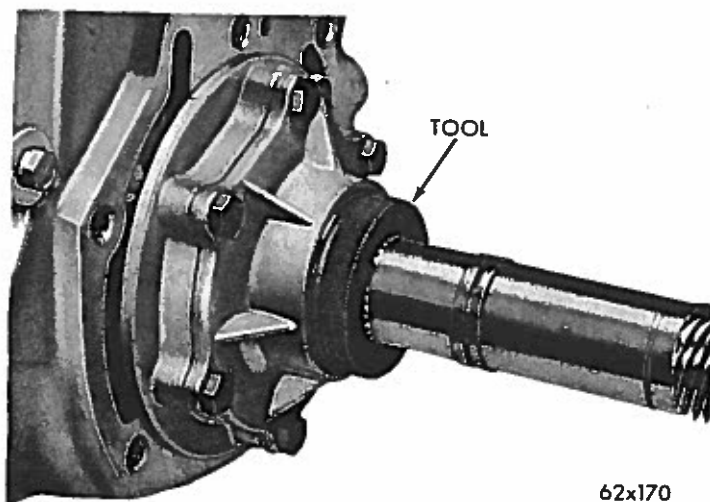

Fig. 35—Aligning Rear Oil Pump Cover (Tool C-3864)
- (3) Install the oil pump cover with the retaining bolts threaded in a few turns. Slide the aligning fixture Tool C-3864 all the way in until it bottoms against rotors (Fig. 35), then retighten the cover bolts evenly to 140 inch-pounds torque.
- (4) Install the governor and parking sprag. See Paragraph 24.
- (5) Install the extension housing, transmission